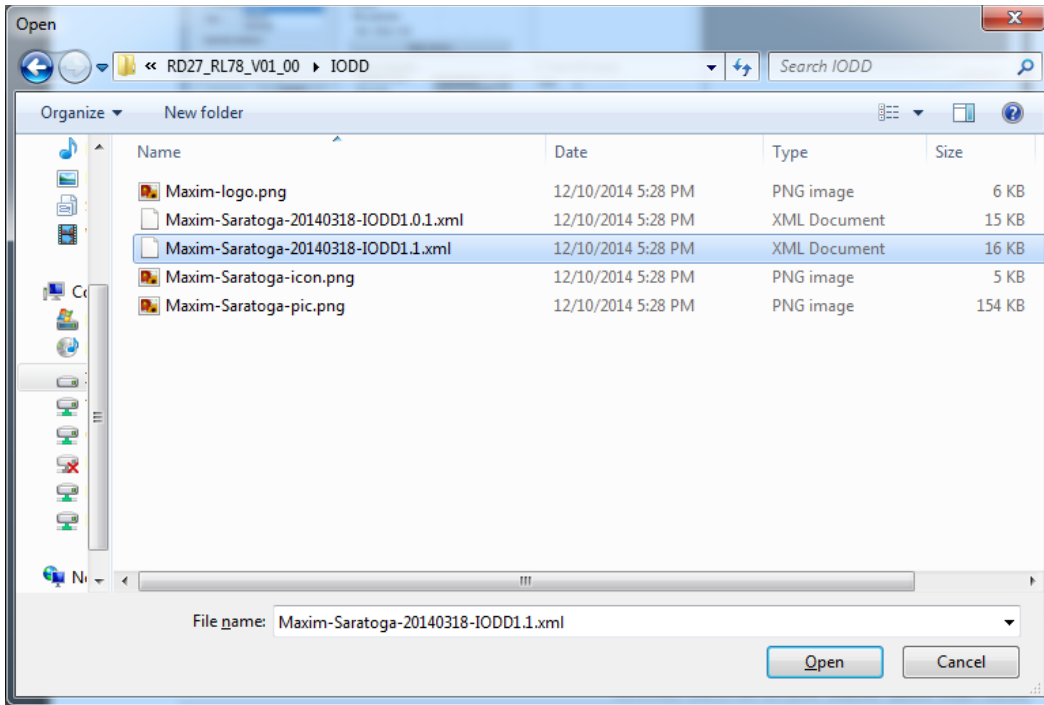
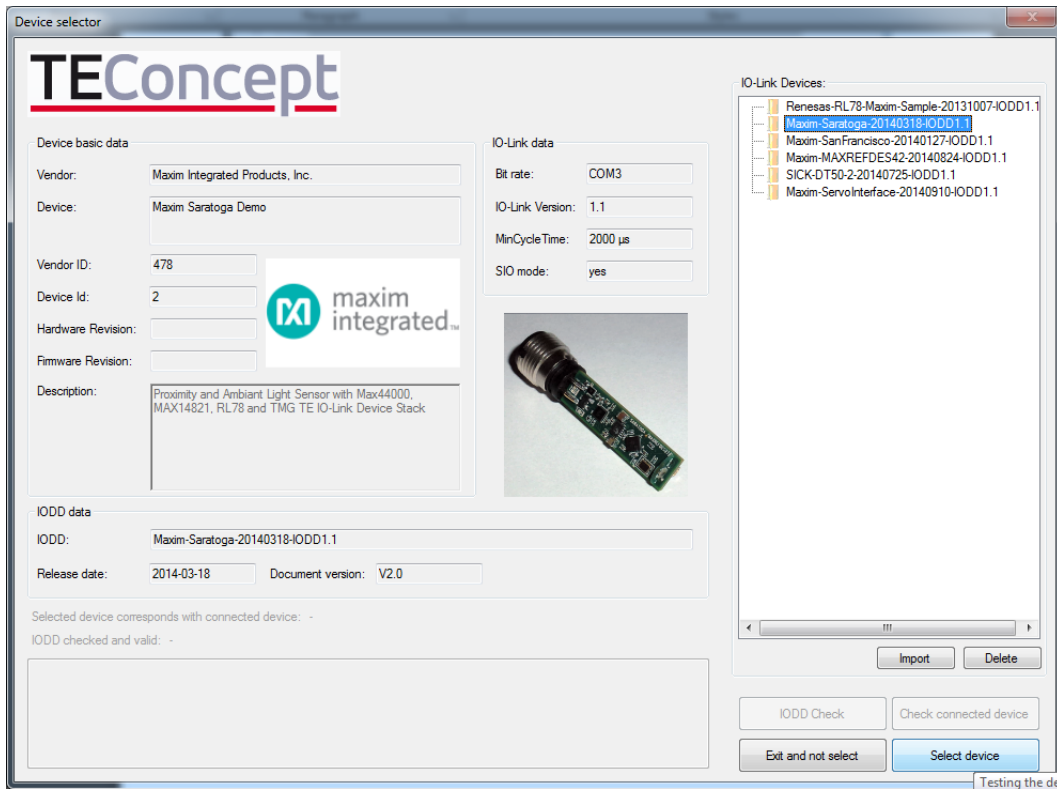

Figure 8. Sensor IODD file (*1.1.xml).
Figure 9. Press the Select device button when imported IODD files are highlighted.
10. Load in the IODD file for your sensor or actuator. In this case, we will show the MAXREFDES27# IO-Link proximity sensor not included. First, press the **Select device** button. In the **Device selector** window, press the **Import** button and select the sensor's *1.1.xml IODD file. Highlight the IODD file in the **IO-Link Devices** box and press the **Select device** button. See Figure 8 and Figure 9.